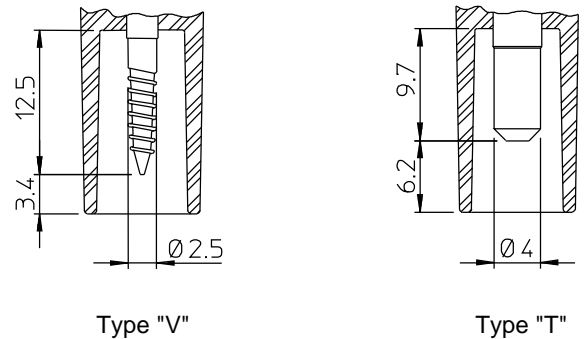

Fig.5
- V: screw fixing system (Fig. 5);
T: fixing system with terminal Ø 4 (Fig. 5);
The connection of high voltage cables can be of two types, according to the terminals used inside the isolators: connections can be executed by means of a screw or of a cylindrical terminal with 4 mm diameter, as shown in Fig.5. All connectors, including the ones complete with cable, can be supplied on request.